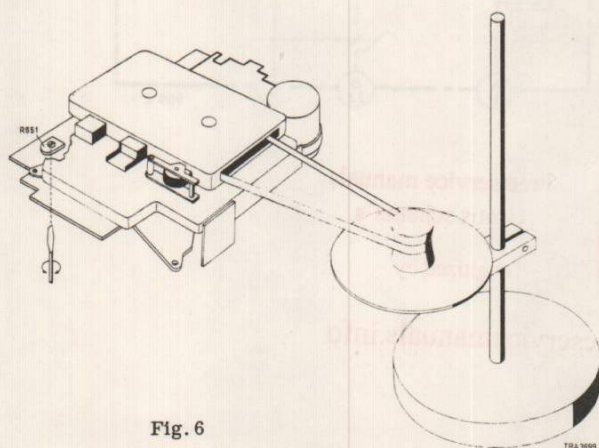

Fig. 6
2. With stroboscopic disc (Fig. 6)
Place a stroboscopic disc (code number 4822 395 90001 for 50 Hz or 4822 395 90002 for 60 Hz) next to the set and connect as shown in Fig. 6.
If the speed is too low, check that there is not too much friction in the pressure roller, the winding friction, the flywheel, etc. After that, adjust the speed with R651 (see Fig. 6).